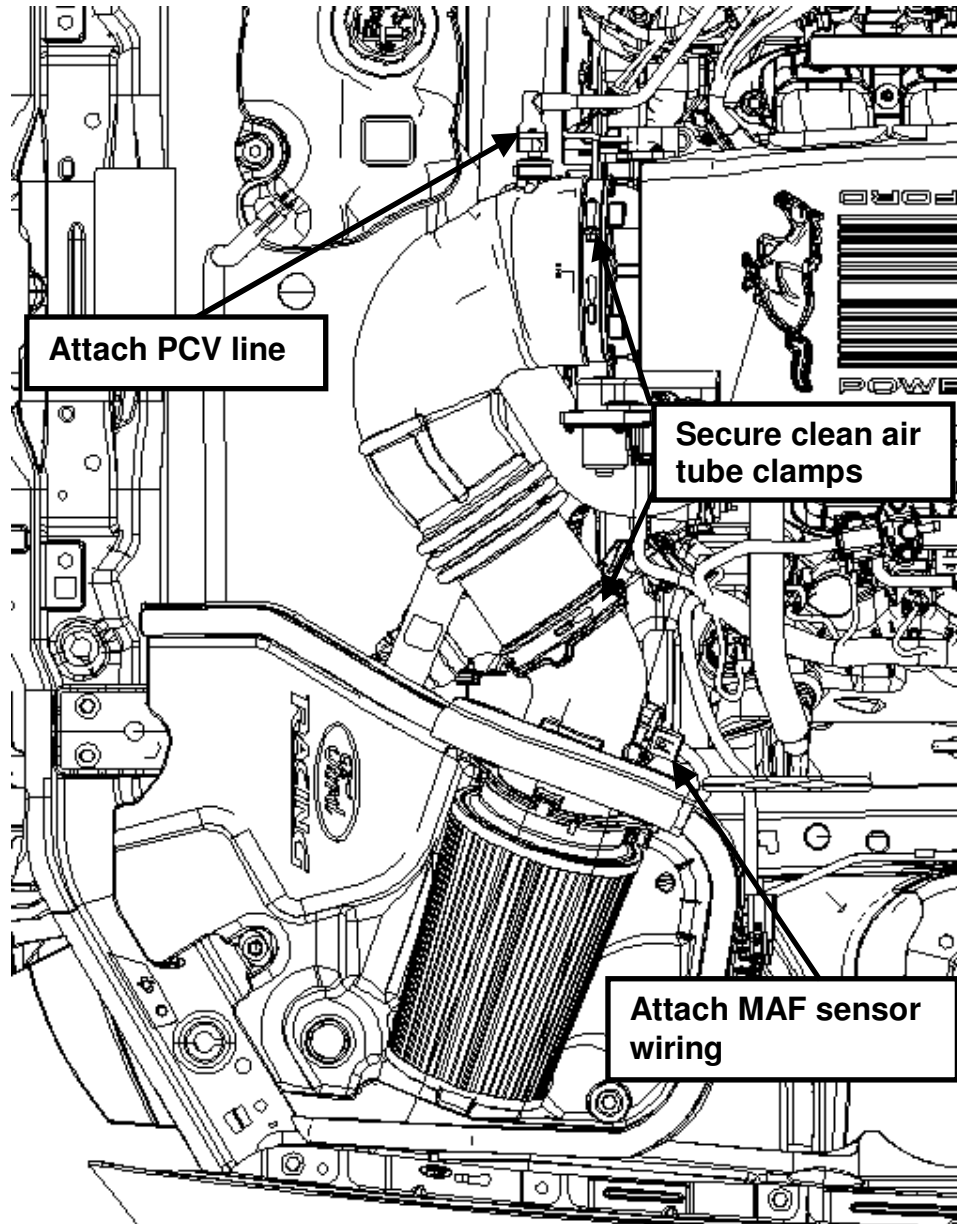

Fig. 7
STEP 5: Install the new rubber clean air tube onto the throttle body and air intake bucket assembly. Tighten the worm drive clamps and torque to 3 Nm (26 lb in). Re-install the MAF electrical connector onto the MAF sensor and reconnect the PCV hose (See Fig. 7).